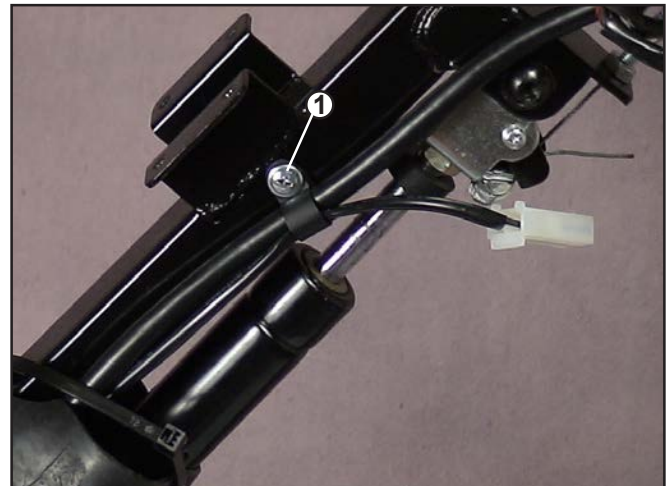

Figure 31. Main Harness Upper Clip
12. Remove the upper main harness clip. (See #1 on figure 31.)